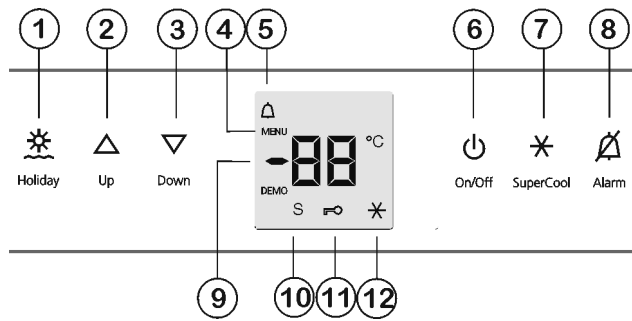

Fig. 2
- ▶ Press On/Off button *Fig. 2 (6)*.